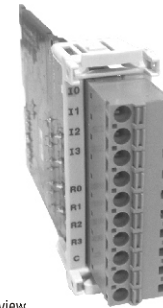

Figure 1.1 : Front view
- FL-SC-DI04-RO04 card as shown in Figure 1.1 is used as a plug-in module in Flexys series and EXP FLEX 2M, and not as an independent module.